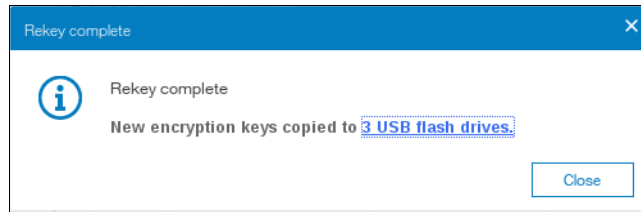

Figure 13-81 Successful rekey operation using USB flash drives
4. You should receive a message confirming the rekey operation was successful, as shown in Figure 13-81 on page 758.